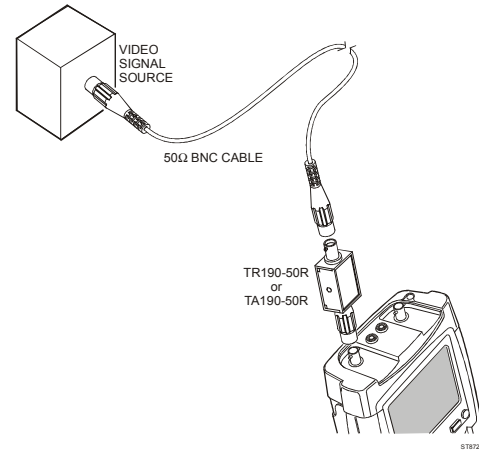

Figure 1-1. 50 Ohm cable termination using the TR190-50R or TA190-50R
- TR 190-50R, 50 Ohm BNC feed-through terminator for video and HF measurements (Max. 5 V) . See Fig. 1-1.
- TA 190-50R, 50 Ohm 10:1 attenuator feed-through terminator for additional dynamic range and offset. See Fig. 1-1.